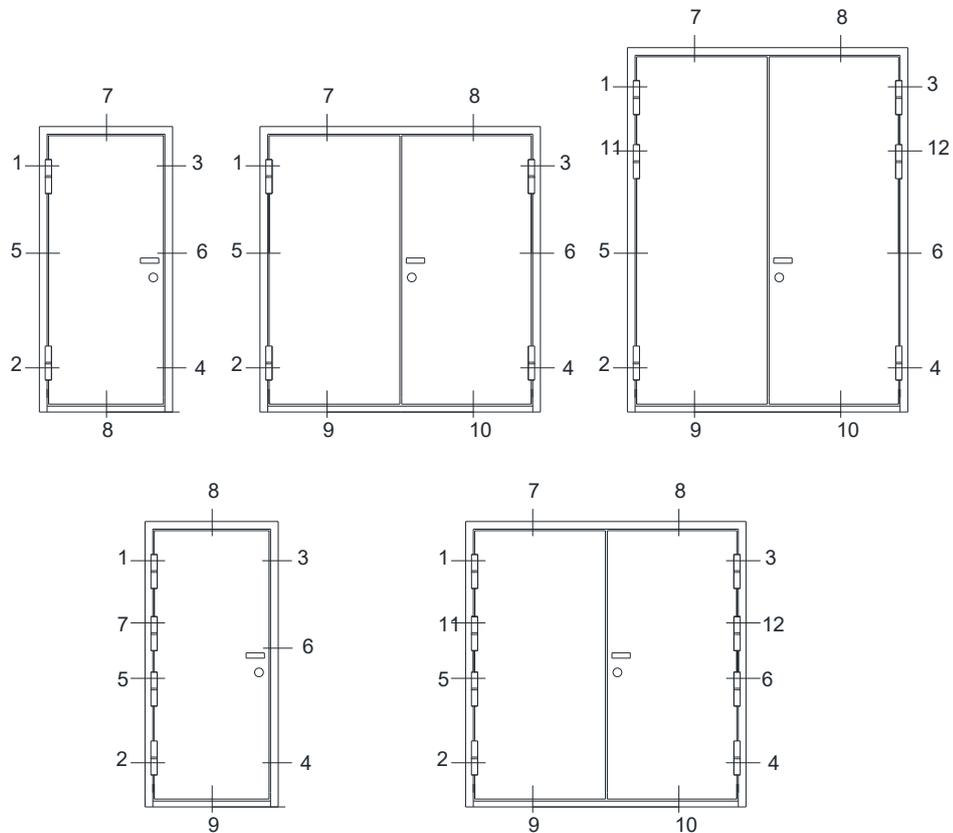

Figure 4. Frame fixing points
- 3.6.1 Level the hinge-side of the frame and initially fasten the frame through fixing points 1, 2, and 3 (Figure 4).
- 3.7.5 Fasten with a screw through fixing point 4 (Figure 4).